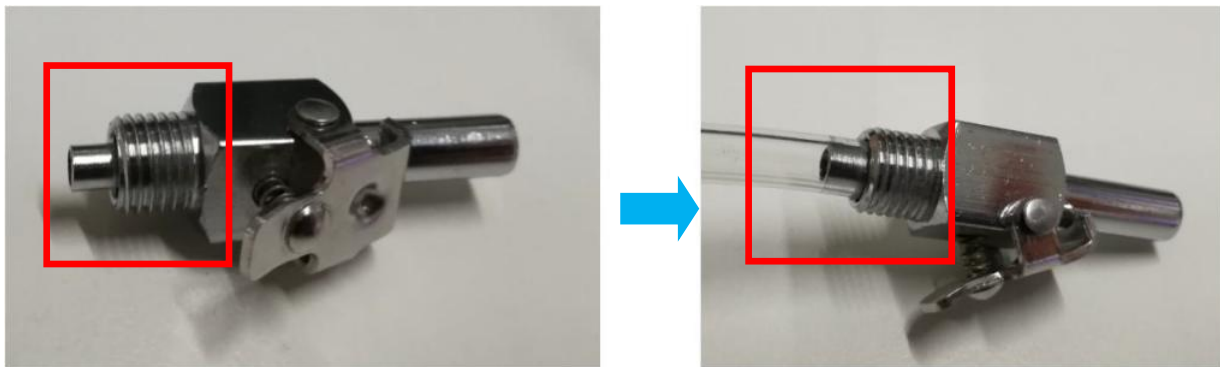

Figure 18
19. Plug the other end of tubing (Approximately 85cm) at Parker Clip Fitting. May refer to below Figure 18.